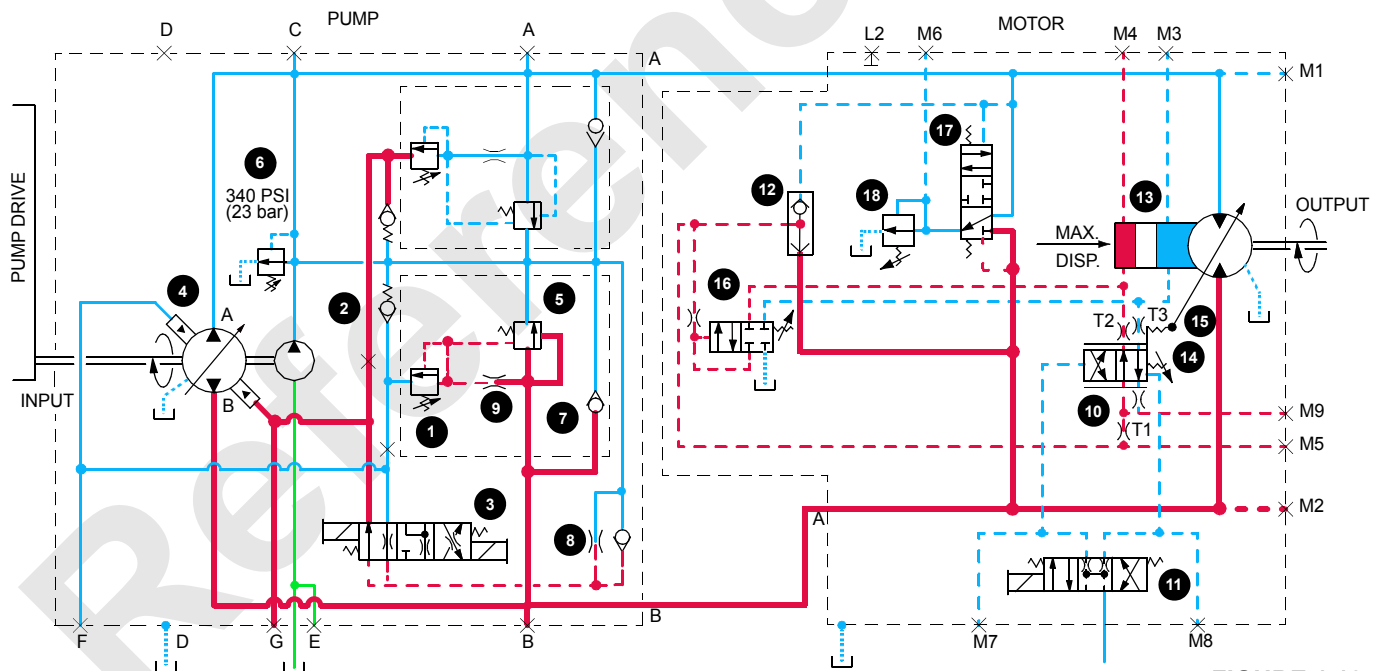

FIGURE 1-18
Hydraulic fluid pressure overcomes spring resistance in pressure limiting relief valve (1, Figure 1-18), shifting spool to open a line for fluid pressure. Servo check valve (2) is spring loaded with an opening pressure of 750 psi (52 bar).